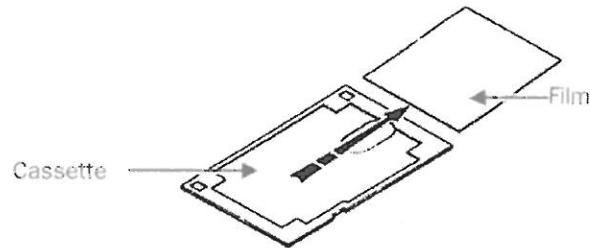

Fig. 5.87 Removing the film from the cassette
3. Carefully remove the film from the cassette (Fig. 5.87).